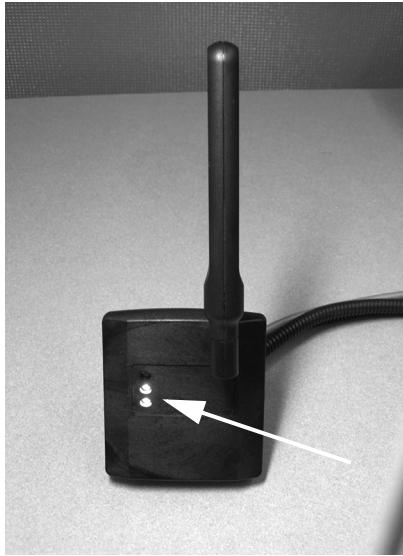

Figure 3-19. Mobile Link Unit LEDs
30. Verify that the Mobile Link unit's middle LED is illuminated and bottom LED is illuminated or flashing at this time. See Figure 3-19.